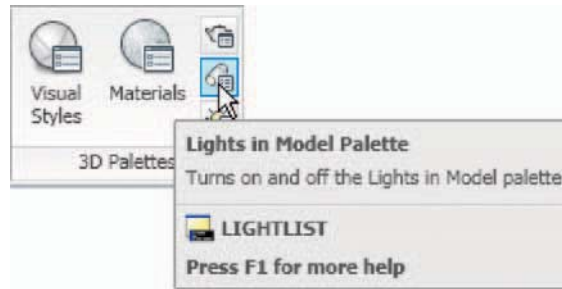
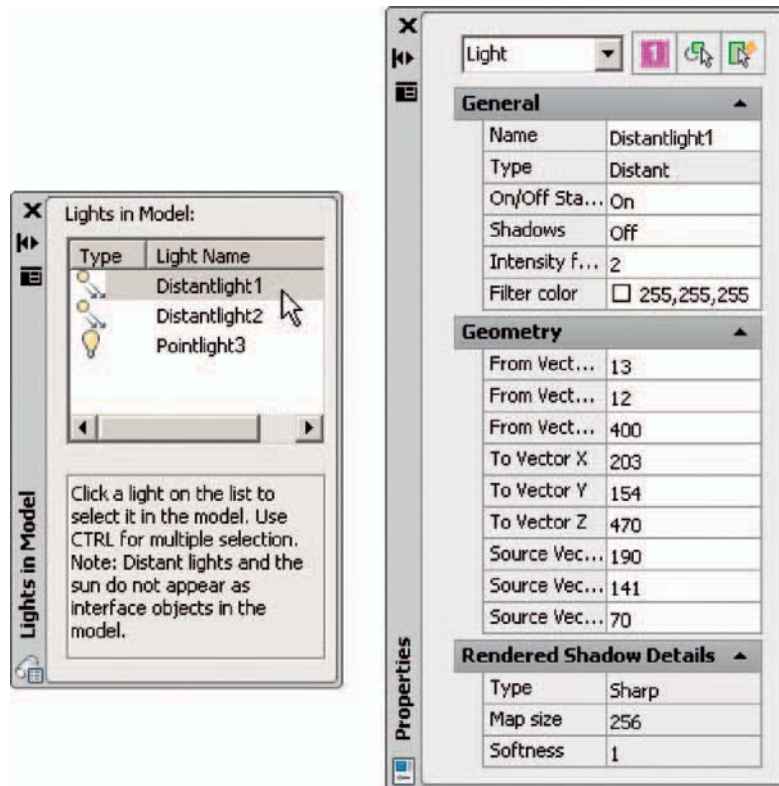

Fig. 15.31 Selecting **Lights in Model Palette** from the **View/3D Palettes** panel
Fig. 15.32 The **Lights in Model** and **Properties** palettes
7. When the model has been rendered, if a light requires to be changed in intensity, shadow, position or colour, *click* **Lights in Model** in the **View/3D Palettes** panel (Fig. 15.31) and the **Lights in Model Palette** appears (Fig. 15.32). *Double-click* a light name and the **Properties**
palette for the light appears in which modifications can be made (Fig. 15.32). Amendments can be made as thought necessary.